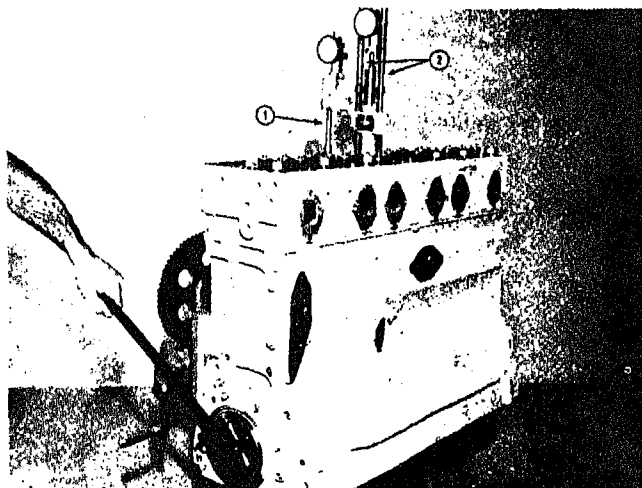

Fig. 14-1-38. Barring engine to check injection timing
cylinder desired; install Timing Tool in injector sleeve of same cylinder by engaging short rod (1, Fig. 14-1-38) in injector push tube socket and securing tool in place with retainers (2, Fig. 14-1-38).
2. Bar engine in direction of rotation to T. D. C. (maximum point of piston rise when both intake and exhaust valves are closed), Fig. 14-1-38. Install indicator above piston within 0.010 in. [0.2540 mm] of fully compressed position. Set indicator dial at "O".